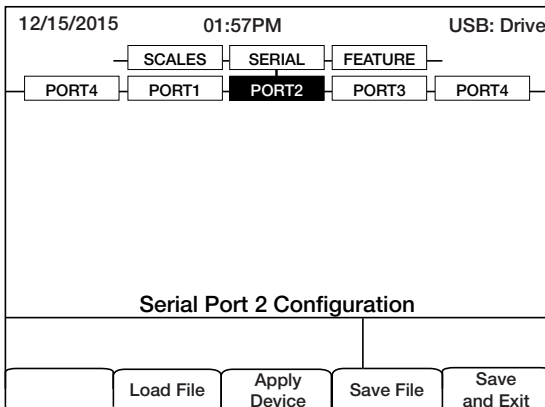

Figure 3-2. Port 2 Screen
5. Place the indicator in setup mode and navigate to the SERIAL » PORT2 menu shown in Figure 3-2 on page 23.